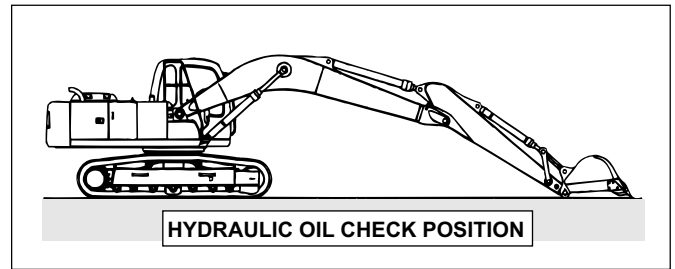

FIGURE 4.16A
1. Place the machine in the oil check position on a firm level surface as shown in Figure 4.16A.